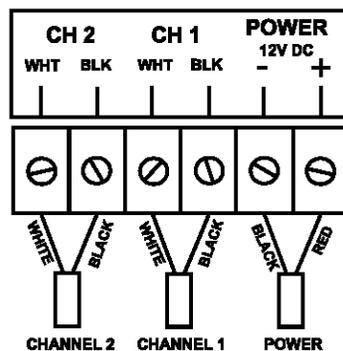

Figure 10-1. Indicator Connections
3. Install the wires into the green indicator connector and snugly tighten each terminal. See Figure 10-1.